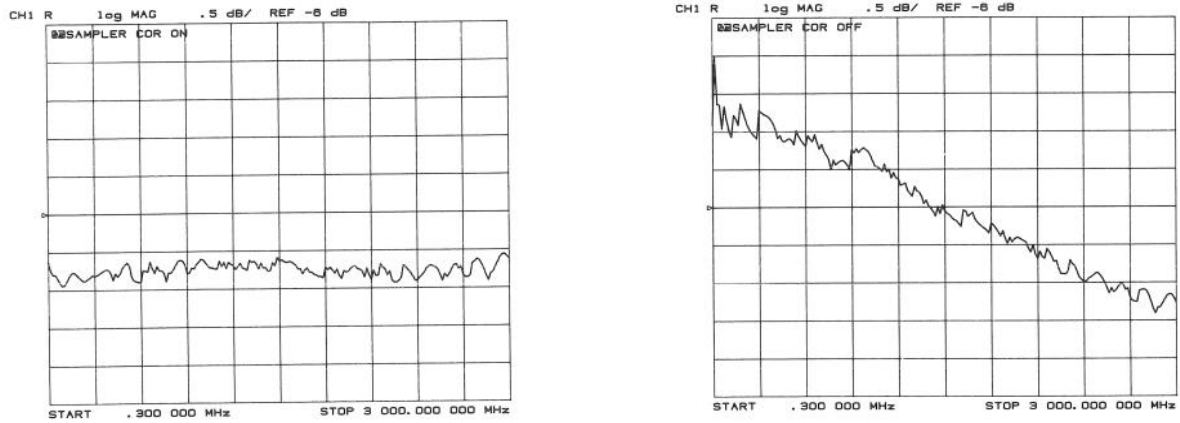

Figure 26. Effect of Sampler Correction Constants.
15. To observe the effect of the sampler correction constant on input R, connect a cable from RF OUT to input R. Then press [PRESET] [MEAS] [R] [SCALE REF] [AUTO SCALE] [SYSTEM] [SERVICE MENU] [SERVICE MODES] [MORE]. Toggle [SAMPLR COR on/off]. The display should appear similar to Figure 26. Otherwise refer to "Receiver Troubleshooting" in the Service section.